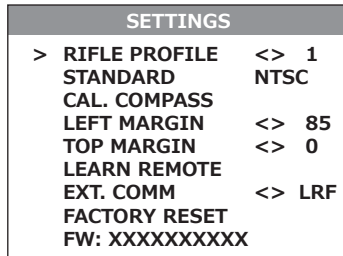

FIGURE 3-22. SETTINGS MENU
The SETTINGS menu (Figure 3-22) allows of direct changes of the contrast, brightness, video standard, compass calibration and temperature scale settings (in certain models?), as well as to restore the settings to their factory defaults. The Firmware (FW) revision number is listed at the bottom of the menu display.